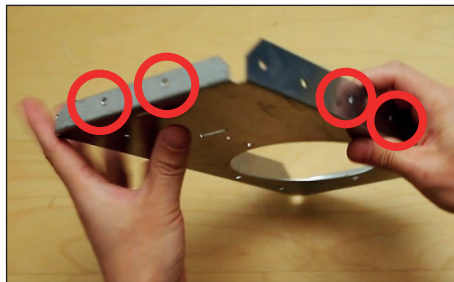

Fig. 2
- Identify hanger bar mounting holes on all sides of the Non-Electrical New construction housing. [Fig. 2]